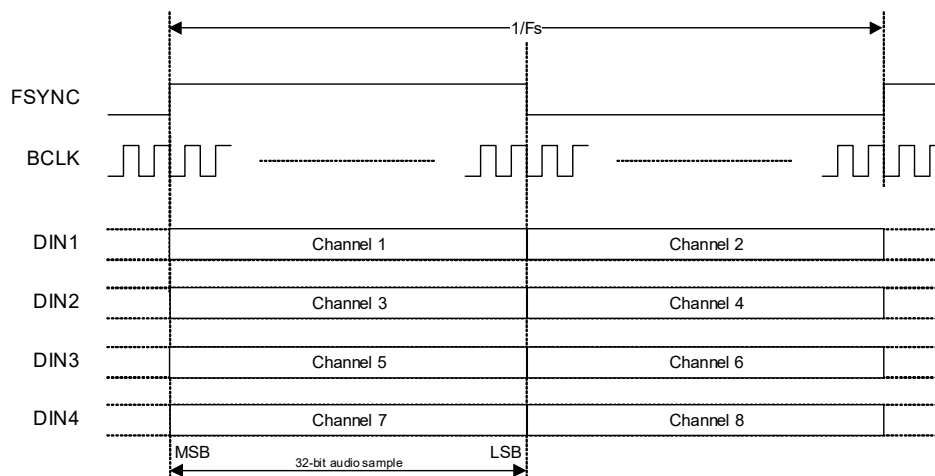

Figure 4-13. Left-Justified Data Format
- If Left-Justified data format is selected, the ASP supports audio channels 1–8 as shown in Fig. 4-13. The minimum BCLK rate is 64 fs (where fs is the sample rate). A higher BCLK frequency can be used, resulting in unused BCLK cycles between the LSB of one sample and the MSB of the next.